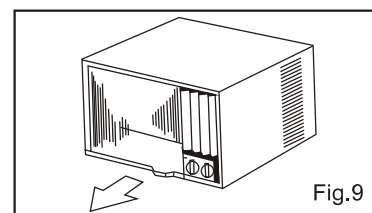

Fig.9
- 3) Grasp the handle on the front of the chassis and carefully slide the air conditioner unit out of the cabinet. (Fig.9)